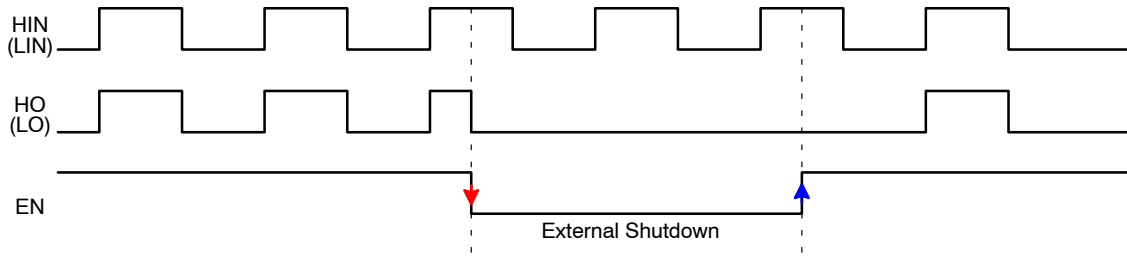

Figure 27. Timing Chart of Enable Function
Enable (EN) is internally pulled low to SGND so the driver is always defaulted to a disabled output status. Similar to HIN and LIN, EN is a Schmitt trigger TTL compatible input. Pulling the EN pin above 2.5 V maximum, enables the outputs, placing the NCP51820 into an active ready state. Due to the nature of high-speed switching associated with GaN power stages, and for improved noise immunity, it is recommended to connect the EN pin to VDD through a 1 k Ω (or less) pull-up resistor. For applications where the EN pin is actively controlled, the EN pin can be driven direct but should be bypassed with a 10 nF decoupling capacitor. As shown in Figure 27, if EN is pulled low during normal operation, the driver outputs are immediately disabled, even terminating an active HIN or LIN pulse mid-cycle during the on-time. When EN is toggled high, during normal operation, a cycle-by-cycle, edge-triggered logic function is employed to prevent shortened, erroneous control pulses from being processed by the output. This behavior is highlighted in Figure 27, where EN transitions high at the same time the HIN (or LIN) input pulse is high. In this way, the NCP51820 is intelligent by waiting until the next rising edge to process the full input signal to the output driver stage.